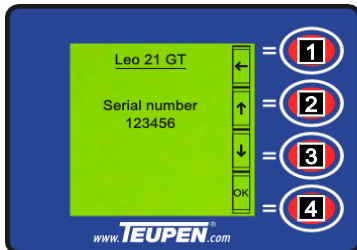

Fig. 85
1. Use the [function key] (Fig.85/1) to return to the machine data menu.